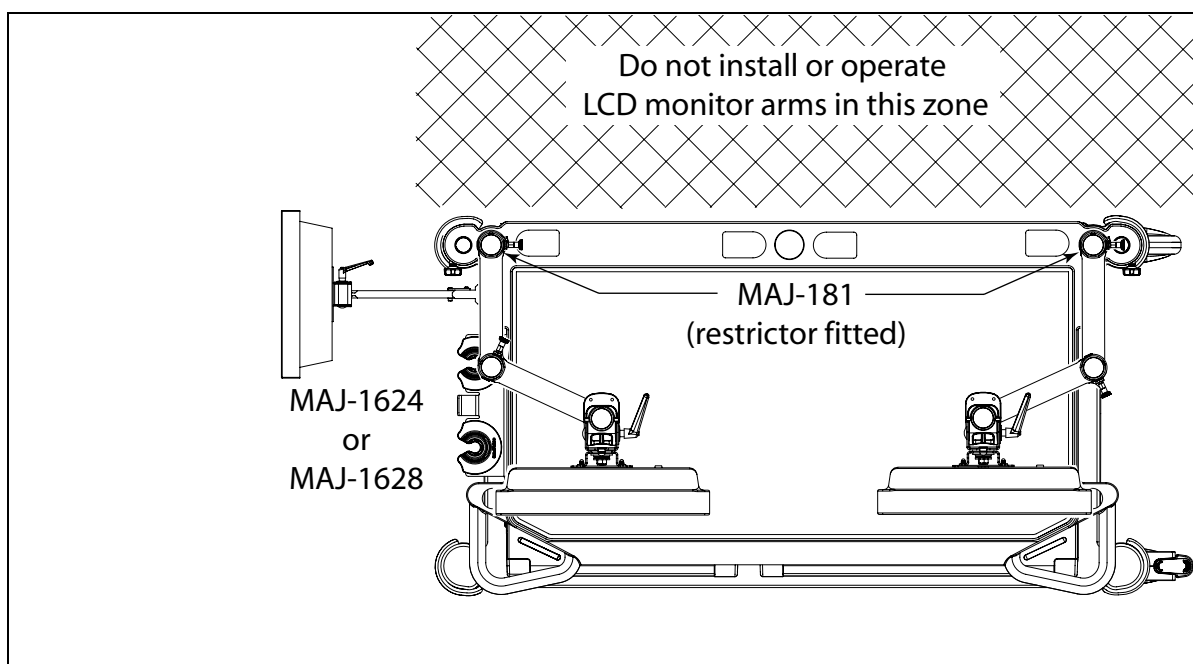

**Figure 2.1**
- LCD monitor arms should not be installed or used to the rear of the workstation, see Figure 2.1.